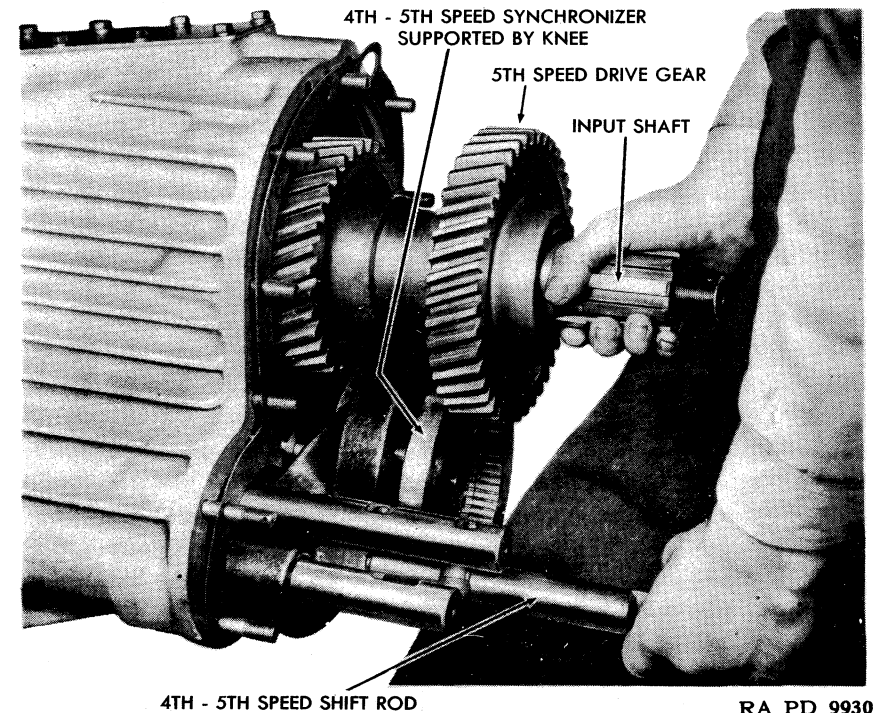
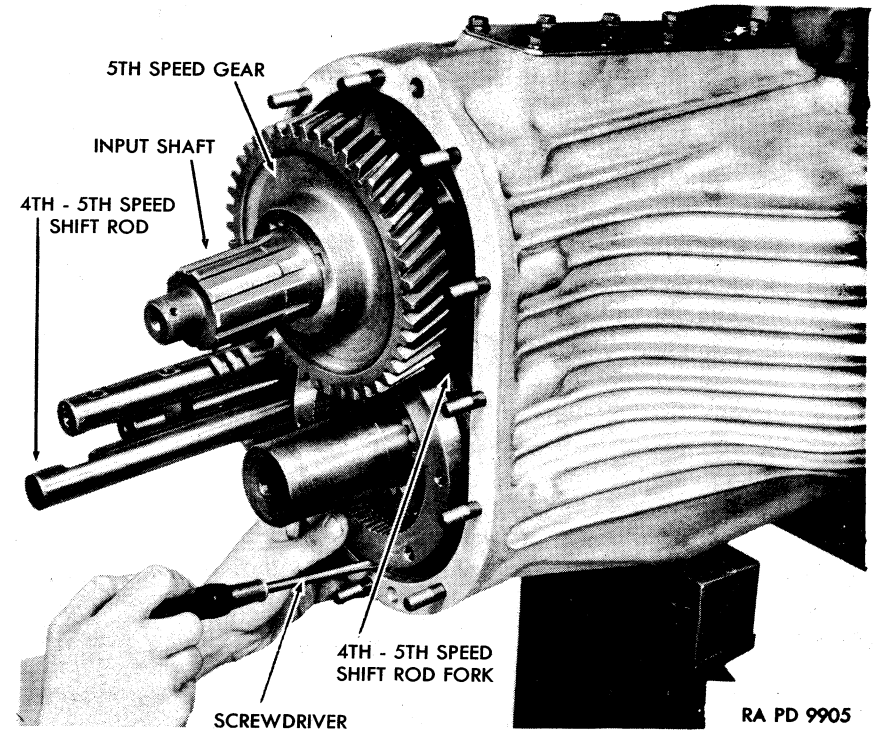

FIGURE 68—Installation of input shaft with fourth-fifth speed synchronizer.
FIGURE 69—Alinement of fourth-fifth gear synchronizer with spline of output shaft.
(17) Install input shaft and fourth and fifth speed synchronizer (figs. 68, 69 and 70).
Put fourth-fifth speed synchronizer into groove of fourth-fifth shift rod fork and start fork assembly onto other shift rods and onto output shaft but not into the case. Lift input shaft into transmission over output shaft so that the fourth and fifth speed gears straddle the fourth-fifth synchronizer (fig. 68). Shift second-third synchronizer into third speed engagement. Advance input shaft into front bearing, moving synchronizer ahead with input shaft. When synchronizer starts onto involute spline, see that it lines up properly (fig. 69). **NOTE:** There is a difference in length of the hubs which carry the clutch teeth on the clutch plate; the long hub is the one which goes to fifth speed and which should be out or facing rearward when assembled.